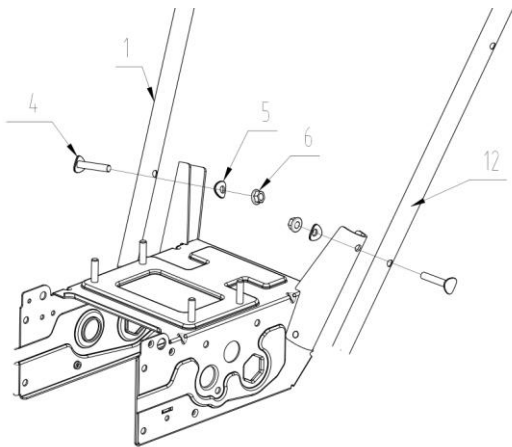
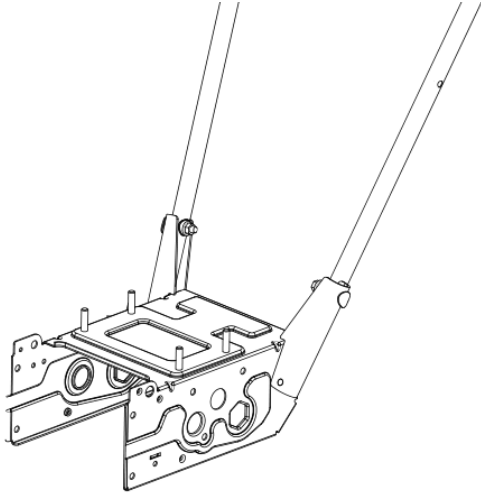

Fig.2
Fig.3
3.2 Installation of armrest (1 #) (12 #): As shown in Figure 2, use M8 × 35 concave bolts (4 #) and 8 × twenty-two × Install the left and right handrails onto the mounting holes on both sides of the housing using 2 concave washers (5 #) and M8 loosening nuts (6 #) (see Figure 3);